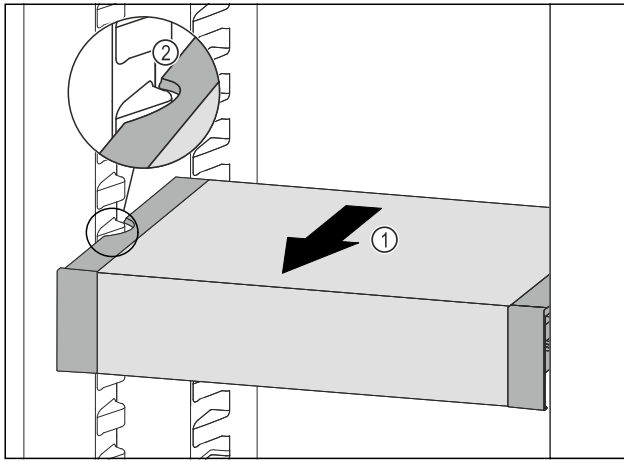

Fig. 216
- Pull VarioSafe forwards Fig. 216 (1) until the recesses in the side of the VarioSafe are at the level of the support rib in the fridge section. Fig. 216 (2)